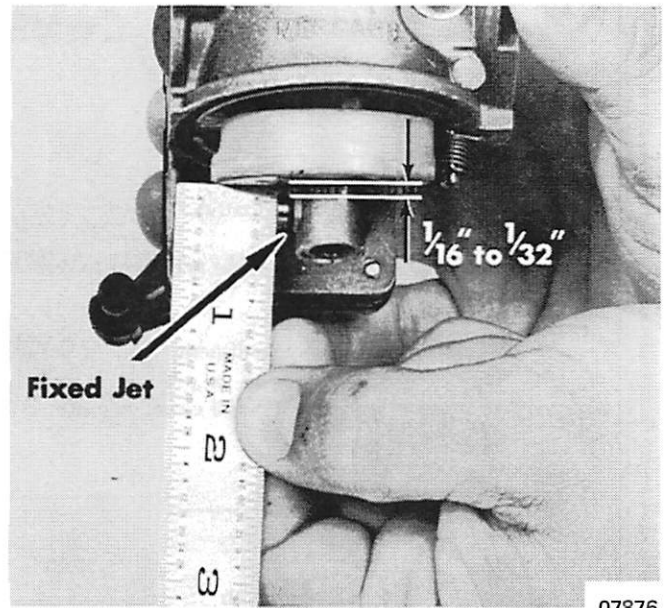

Figure 6. Float Drop Adjustment
2. Adjust float drop to get  $1/64$ " to  $1/32$ " between bottom of float and fixed jet. (Figure 6) Adjust by bending tang on float.